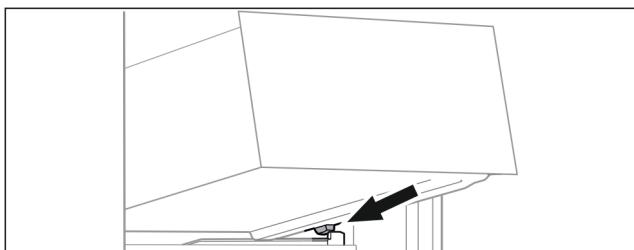

Fig. 98
- ▶ Place drawer at an angle behind the stoppers on the moulded rib. (see Fig. 98)